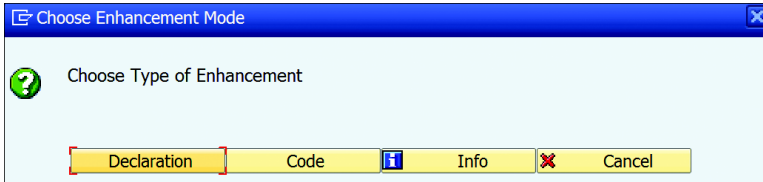

Figure 20.60 Enhancement Mode
7. You'll see a dialog box to choose the enhancement mode (see Figure 20.60). Choose the DECLARATION button if you want to add data declarations (static enhancement), and choose the CODE button if you want to add program logic (dynamic enhancement). For this example, select the CODE button.